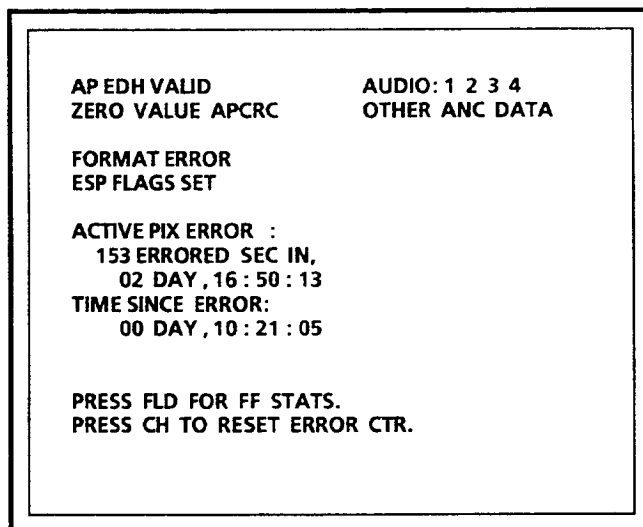

Figure 2–3: EDH message display
- MENU. Pushing and holding the FLD [MENU] switch brings up the main configure and diagnostic menu. Figure 2–2 shows the menus and how to access them. Use the UP/DN buttons to move the cursor to the selection and then push the FLD switch to activate. Menus are self explanatory; however, more information on the configure menus is contained in *1730D Configure Menus* on page 2–10.
- **READ OUT.** Turns on and off the CRT readout that gives serial error information and indicates the presence of ancillary data, such as audio. See Figure 2–3.